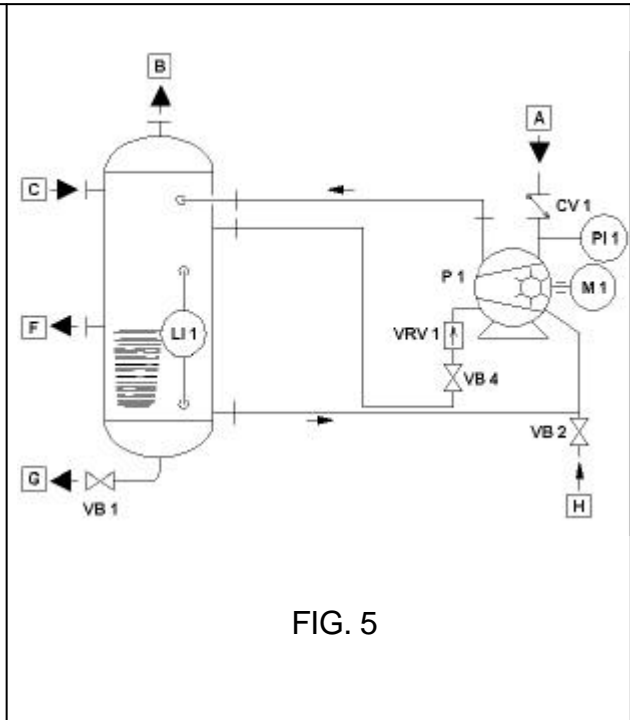

FIG. 5
- **PARTIAL RECIRCULATION (FIG. 5)**